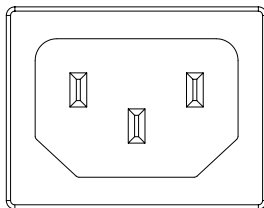
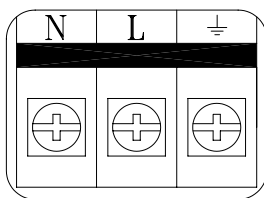

Figure 2-4
Figure 2-5
All connections to the Recorder are made to the Rear Terminal Panel. Any wiring carrying hazardous voltages must conform to all applicable local and national safety codes. AC Mains connection is via an internationally accepted IEC 320 AC mains connector or screw terminal (Figure 2-4 and Figure 2-5).
Figure 2-4 shows the IEC 320 AC mains connector on the rear of the Recorder. The center pin is the ground termination. If a mating plug is provided, it will be marked with the Ground, LINE (L) or hot, and NEUTRAL (N) or return. In the United States, an approved cable with integral plug (NEMA 5-15 P) is provided. In some instances, a cable with no plug may be provided. In this instance, the user must connect an approved plug to the cable prior to connecting to the AC source.
Figure 2-5 shows the screw terminal power connections on the rear of the Recorder. The right terminal is ground, the center terminal is LINE (L) or hot and the left terminal is NEUTRAL (N) or return. The wire color codes are as follows: